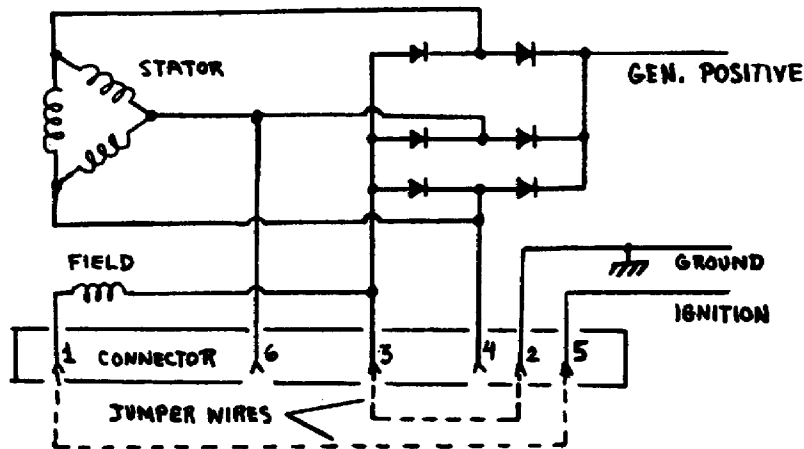

Figure 9. Schematic operation.
(1) Once the jumper wires are in place, the rectifier assembly is grounded and the ignition terminal is directly connected to the field circuit. Figure 9 shows what is happening schematically.